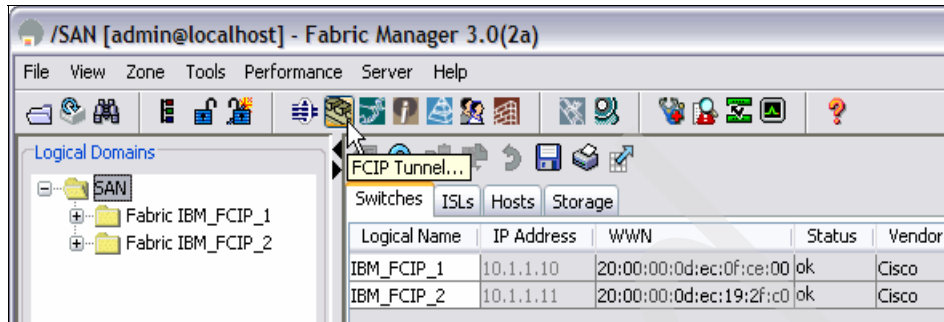
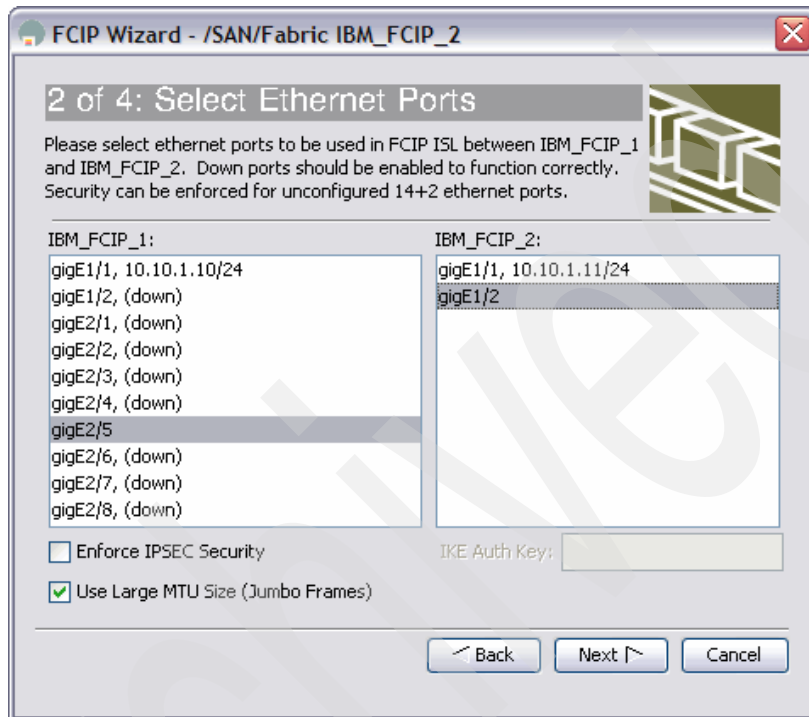

Figure 12-11 FM FCIP wizard
Figure 12-17 FCIP port selection
a. Select the FCIP wizard, as shown in Figure 12-11.
- We again select the FCIP tunnel wizard, shown in Figure 12-11 on page 343, and are ready to select which interface will make up the second FCIP link, as shown Figure 12-17. The second link will use the GigE2/5 port on IBM\_FCIP\_1 and the GigE1/2 on the other MDS 9216i.